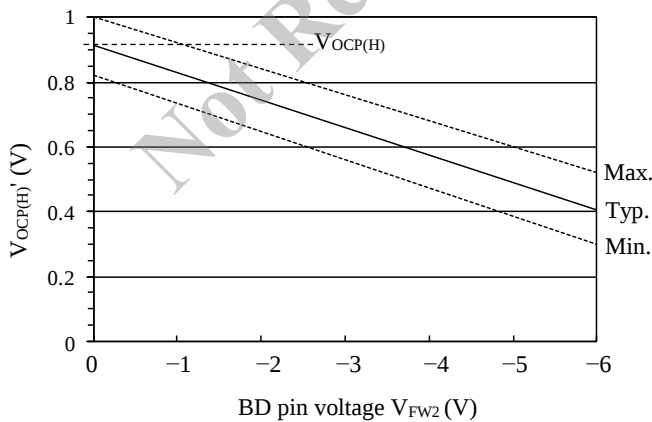

Figure 9-28 Overcurrent threshold voltage after input compensation, $V_{OCP(H)}$ (reference for design target values)
4) $V_{OCP(H)}$ is the overcurrent threshold voltage after input compensation. Figure 9-28 shows a relationship of $V_{OCP(H)}$ and BD pin voltage, V_{FW2} .
V_{FW2} at maximum AC input voltage is calculated by using Equation (7). $V_{OCP(H)}$ and this variation are gotten by using the result from Figure 9-28.
Referring to Figure 9-28, when V_{FW2} is compensated to -2.92 V , the overcurrent threshold voltage after input compensation, $V_{OCP(H)}$, is set to about 0.66 V (typ).